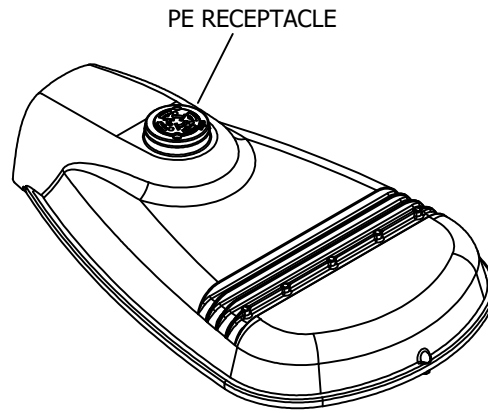

FIGURE 5
- 5. **PHOTOELECTRIC CONTROL:** ORIENT THE PHOTOELECTRIC (PE) RECEPTACLE SO THAT THE WORD "NORTH" IS DIRECTED TRUE NORTH. SEAT AND LOCK THE PE CONTROL/RECEPTACLE AND ROTATE CLOCKWISE UNTIL WORD "NORTH" IS TRUE NORTH. LOWER PE RECEPTACLE INTO POSITION SEE **FIGURE 5 & 6**.